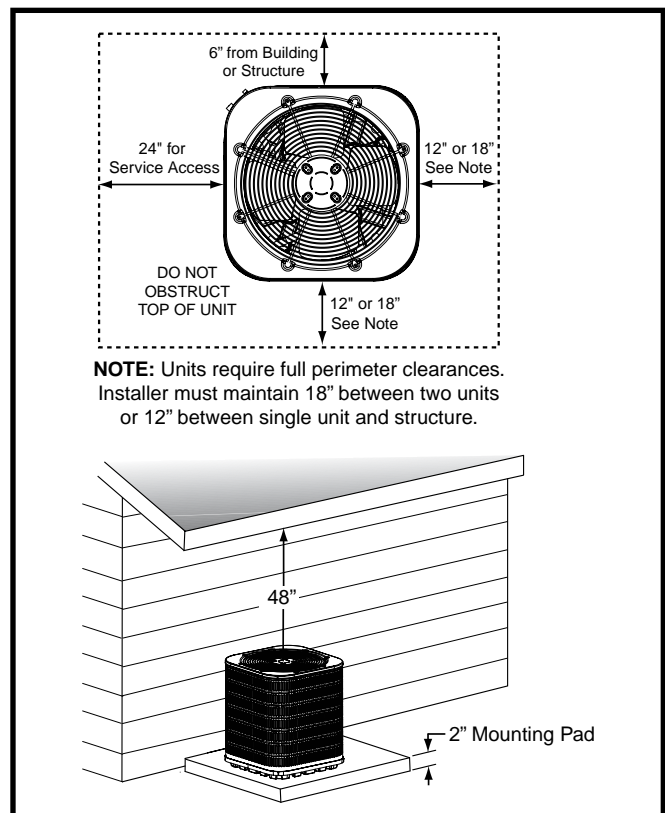

Figure 2. Clearance Requirements
- Overhead obstructions (Figure 2), poorly ventilated areas, and areas subject to accumulation of debris should be avoided.
- Sufficient clearance for unobstructed airflow through the outdoor coil must be maintained in order to achieve rated performance. See Figure 2 for minimum clearances to obstructions.
- Clearances must be in accordance with those shown in Figure 2.
- A suitable mounting pad (Figure 2) must be provided and be separate from the building foundation. The pad must be level and strong enough to support the unit's weight. The slab height must be a minimum of 2" (5 cm) above grade and with adequate drainage.